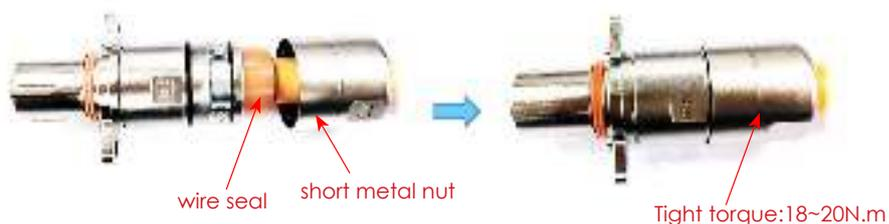

Figure 9
d. Assemble the wire seal and the short metal nut in turn, and the locking torque of the nut is 18~20N.m, as shown in Figure 9.